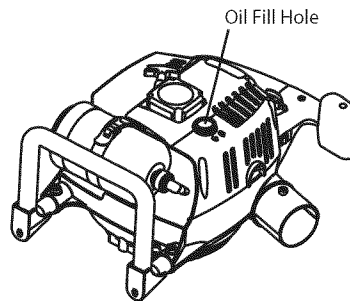

Fig. 16
6. If the level is low, add a small amount of oil to the oil fill hole (Fig. 16) and recheck. Repeat this procedure until the oil level reaches the full mark of the dipstick.